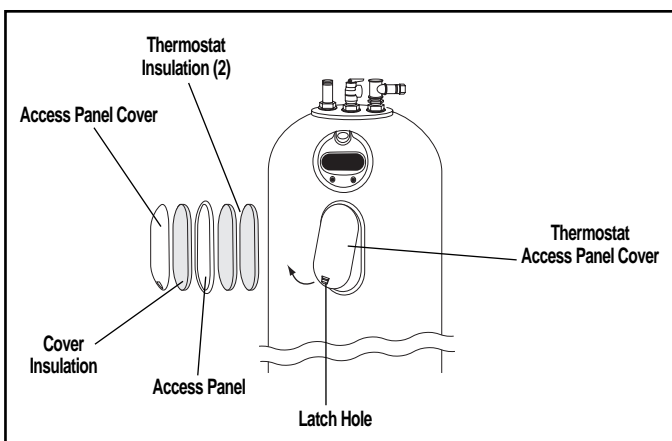

Figure 14 — Removing Access panel for replacement of element.
- F. Remove the thermostat snap-in access panel cover. Insert finger into latch hole on the bottom of the cover, and push up to release the latch. Then pull forward to remove the cover and insulation. Remove the four (4) screws securing the thermostat access panel and the two (2) thermostat insulation pads, exposing the thermostat. (See Figure 14.)